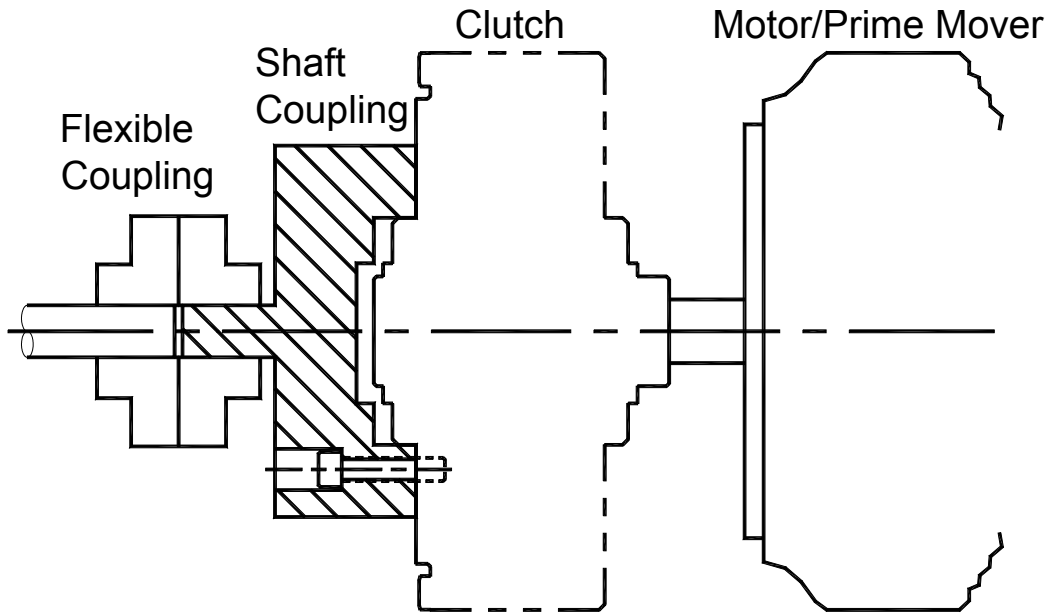

Figure 3
2. Make up and secure output shaft adapter to clutch using 1/4-20 socket head cap screws. Couple input shaft adapter to load, using a shaft coupling (see Figure 3). Follow coupling manufacturers mounting and alignment instruction, to minimize misalignment and maximize Perma-Tork life.